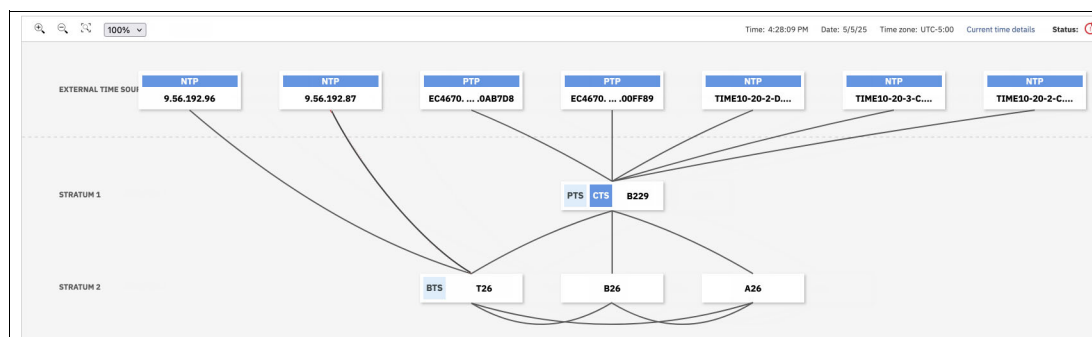

Figure 3-27 CTN configuration after server addition
- At the end of this change, the configuration is shown, as in Figure 3-27.
The starting point of this operation is the CTN displayed in Figure 3-27. Use the following steps to modify the server roles: